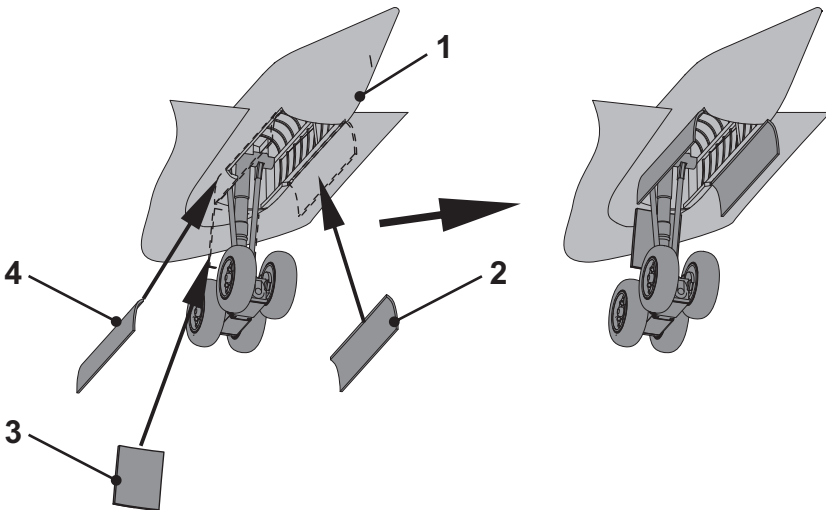

Figure 8
- D Attach the main landing gear bay doors (2, 3 & 4) to the left pod (1) - see figure 8.